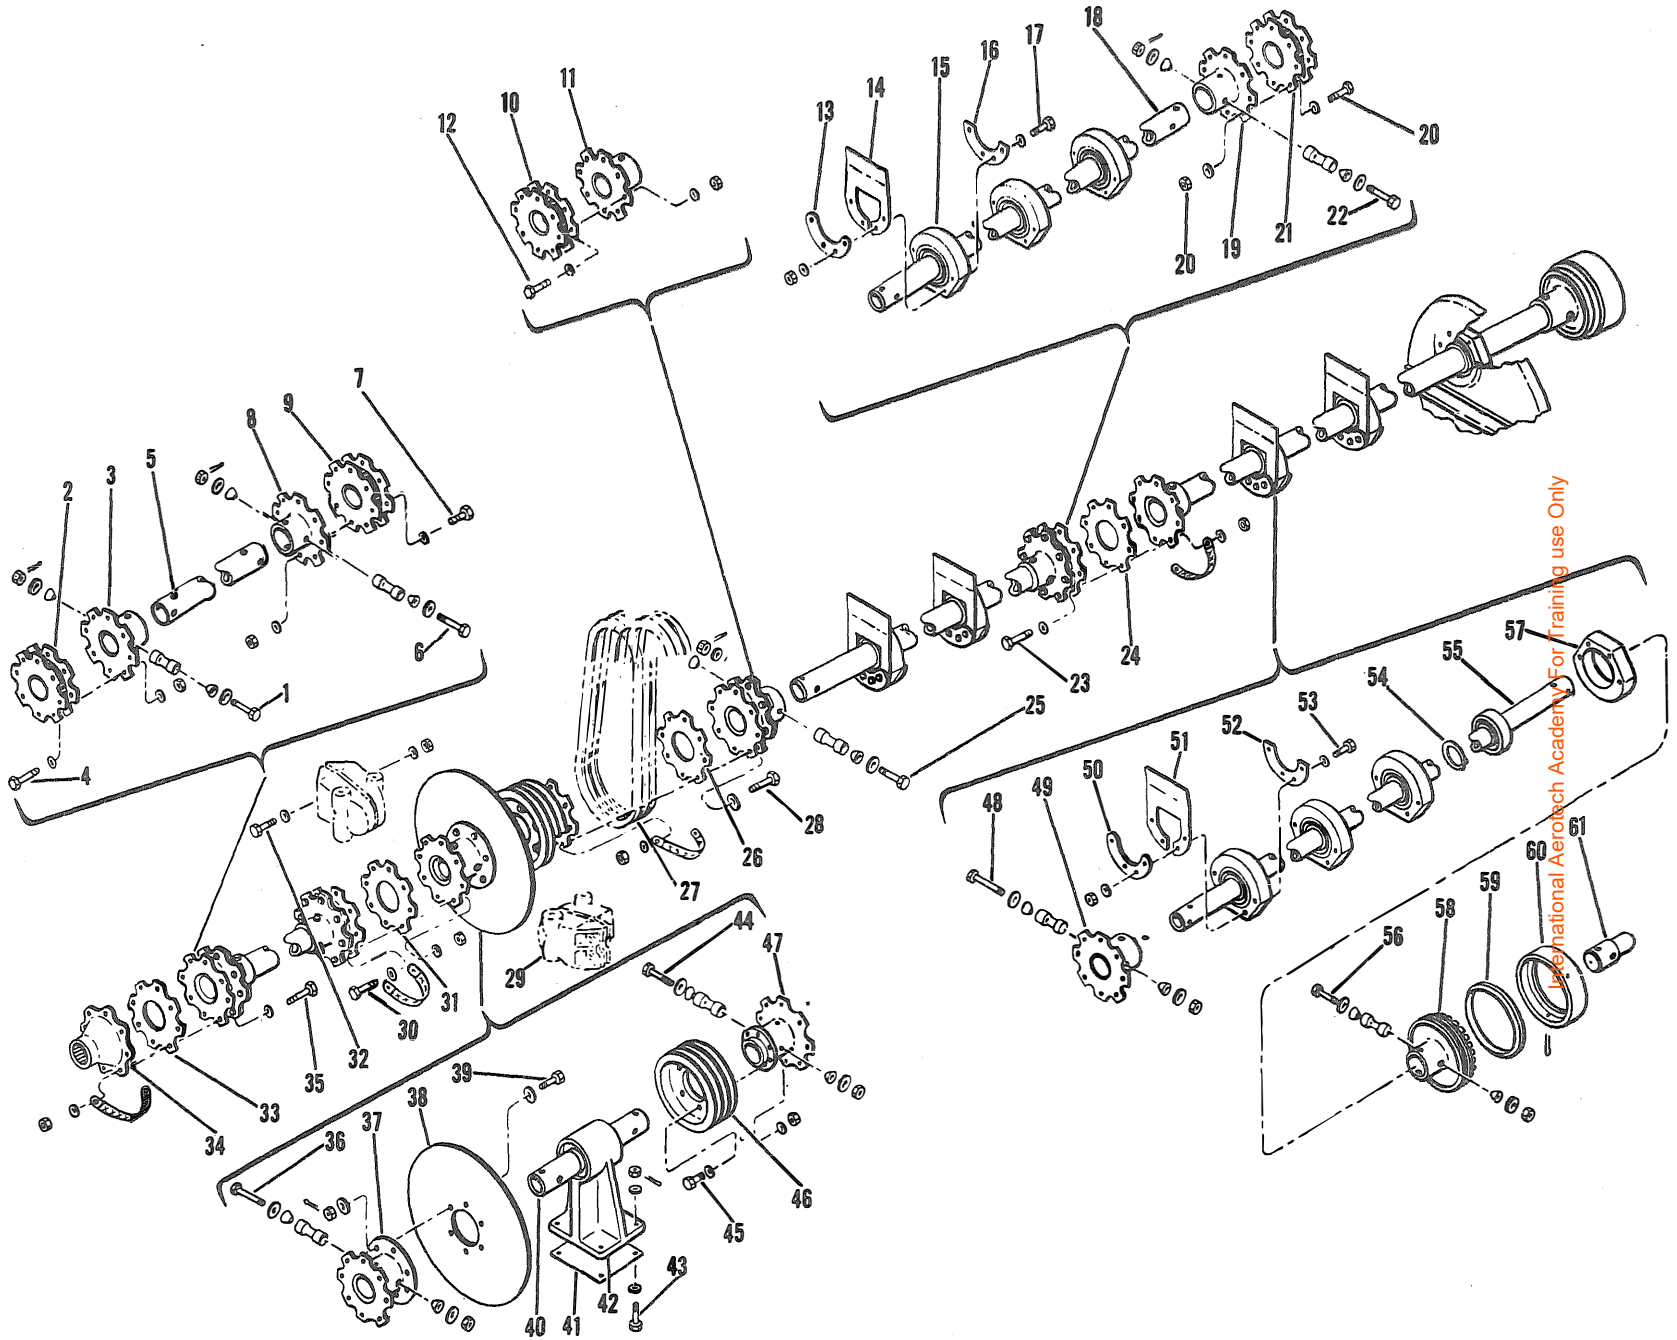

Figure 5-53. Tail Rotor Drive Shaft Removal and Disassembly
c. Loosen the adjustment bolts at the forward oil cooler and blower support and the bolts that secure the radiator support to the bulkhead and lower the oil cooler and blower in the slotted holes. Release the pulley belts (27, figure 5-53) from the driven pulley on the blower fan shaft.
d. Remove the bolts, washers and nuts (30) that secure the rotor brake hub (37) to the rubber coupling (9) at the forward end of the second section of the drive shaft. Remove the shims (31). Release the bonding jumper.
e. Remove the bolts, washers and nuts (28) that secure the pulley hub (47) to the rubber coupling (10) at the aft end of the second section of the drive shaft. Remove the shims (26).
f. Loosen the bolts, washers and nuts (32) that secure the brake halves (29) to their supports and spread them apart to provide clearance for the brake disc (38) when removing the second section of the drive shaft.
g. Unbutton the soundproofing from the cabin ceiling and remove the bolts, washers, nuts and cotter pins (43) that secure the base of the support bearing housing (42) to the transmission deck. Work the section of the drive shaft out of the helicopter as a unit. Remove the shims (41) from the transmission deck and the doubler from the cabin ceiling.
b. Remove the bolts, washers, nuts, wedges and bushing (25, figure 5-53) that secure the flange (11) to the forward end of the third section to the drive shaft.
d. Remove the bolts, washer and nuts (23, figure 5-53) that secure the rubber coupling (21) on the aft end of the third section to the forward flange (49) of the fourth section of the drive shaft. Remove the shims (24) and release the bonding jumper.
f. Support the third section of the drive shaft and remove the bolts, washers and nuts (17) that secure the three support bearings to the bearing supports (14); remove the bearing rings (16) and plates (13).
g. Lower the aft end of the third section down into the openings in the bulkhead until the support bearings clear the bulkheads. Guide the drive shaft section, aft flange (19) and rubber coupling (21) back until the forward end of the third section shaft (18) clears the opening in the frame at the rear of the transmission deck. Remove the drive shaft section through the cabin.
c. Remove the bolts, washers, nuts, wedges and bushings (56, figure 5-53) that secure the input coupling (58) to the aft end of the fourth drive shaft section. Slide the input coupling and guide shaft (59) off the drive shaft (55).
d. Remove the bolts, washer, and nut (23) that secure the forward flange (49) to the rubber coupling (21) on the aft end of the third drive shaft section.
e. Support the drive shaft (55) in the tail cone and remove the bolts, washers and nuts (53) that secure the three support bearings forward of the tail cone hinge bulkhead to the bearing supports (51). Remove the bearing rings (52) and plates (50).
f. Remove the snap ring (54) from each side of the aft support bearing mounted on the hinge bulkhead.
g. Work the fourth section of the drive shaft (55) forward through the hinge bulkhead opening, separating the aft bearing from the bearing housing (57) at the bulkhead. Check that the bearing remains intact on the drive shaft bushing.
h. Lower the fourth drive shaft section (55) in the tail cone and remove it through the electronics compartment and cabin.
i. Unbolt the aft bearing housing (57) from the hinge bulkhead and replace it on the shaft bushing. Install the snap rings (54).
j. Replace the input coupling (58) on the aft end of the fourth section of the tail rotor drive shaft (55).
a. Remove the bolts, washers and nuts (4, figure 5-53), that secure the rubber couplings (2 and 9) to the flanges (3 and 8) on each end of the first drive shaft section (5). Remove the couplings.
b. Remove the bolts, washers, nuts, wedges and bushings (1 and 6), that secure the flanges (3 and 8) to each end of the shaft (5) and slide the flanges off the shaft.
a. Remove the bolts, washers, nuts, wedges and bushings (36, figure 5-53) that secure the brake hub (37) to the forward end of the second section of the drive shaft (40) and slide the brake hub off the shaft.
b. Remove the bolts, washers and nuts (39) that secure the brake disc (38) to the brake hub (37) flange and separate the disc from the hub.
c. Remove the bolts, washers, nuts, wedges and bushings (44) that secure the pulley hub (46) to the aft end of the second drive shaft section (40) and slide the pulley hub off the shaft.
d. Remove the bolts, washers and nuts (45) that secure the pulley (46) to the flange of the hub (47) and separate the pulley from the hub.
a. Remove the bolts, washers and nuts (20, figure 5-53) that secure the rubber coupling (21) to the flange (19) on the aft end of the third section. Remove the coupling.
b. Remove the bolts, washers, nuts, wedges and bushings (22) that secure the flange (19) to the aft end of the third section and slide the flange off the shaft (18).
a. Remove the bolts, washers, nuts, wedges and bushings (48, figure 5-53) that secure the flange (49) on the forward end of the fourth drive shaft section and slide the flange off the shaft (55).
b. Remove the bolts, washers, nuts, wedges and bushings (56) that secure the input coupling (58) to the aft end of the drive shaft and slide the input coupling off the shaft (55).
c. Disassemble the input coupling assembly. Remove the cotter pins and the guide shaft (61), slide the cover (60) off the coupling (58) and lift the gasket (59) out of the groove in the coupling.
- a. Slide the flanges (3 and 8, figure 5-53) on each end of the first drive shaft section (5). Line up the holes and install the bolts, washers, nuts, wedges and bushings (1 and 6). Tighten the nuts with 180 to 225 inch-pounds torque.
- a. Position the brake disc (38, figure 5-53) on the brake hub (37) and install the bolts, washers and nuts (39). Tighten the nuts with 100 to 140 inch-pounds torque.